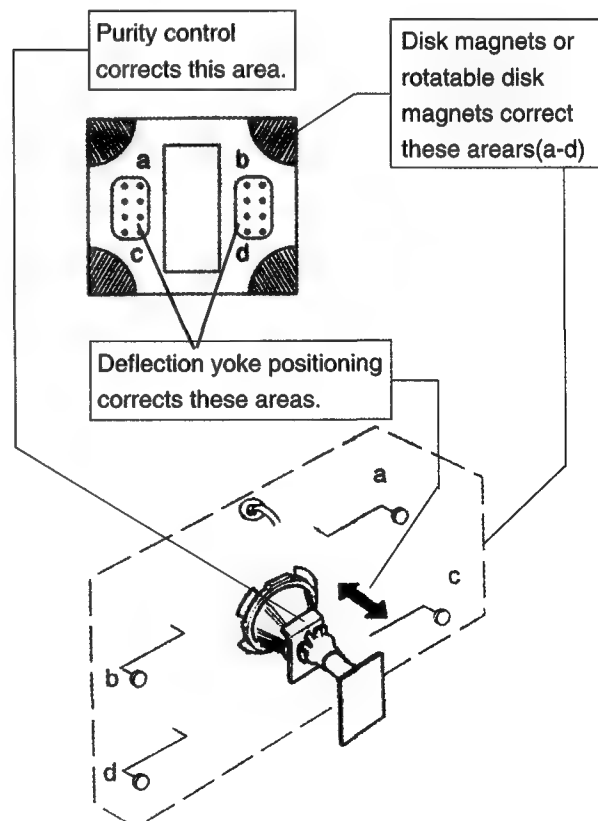

Fig. 4
- 8) When landing at the corner is not right, adjust by using the disk magnets. (Fig. 4)